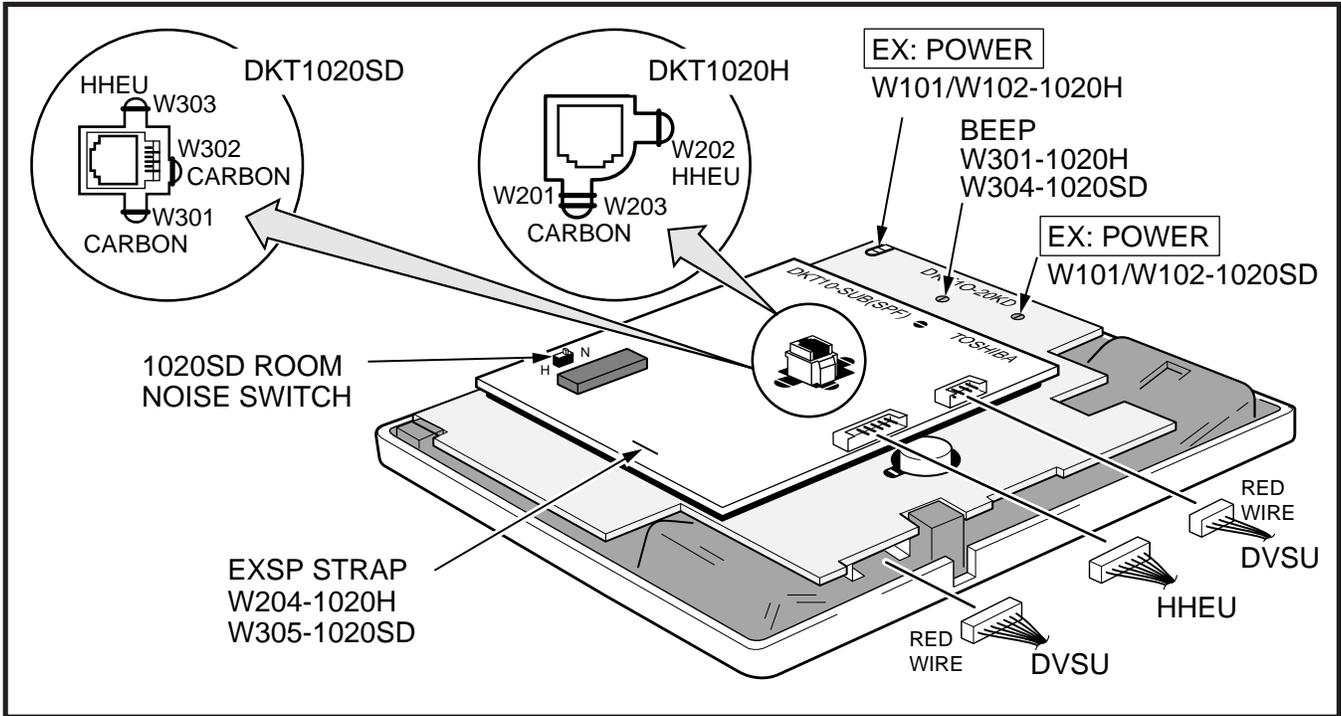

FIGURE 7-9
- 4B) If installing the DVSU into a 1000-series digital telephone, refer to Figure 7-9, and connect the DVSU wire plugs to the **DVSU** connectors on the PCBs inside the telephone.
- 7B) For 1000-series digital telephones, refer to Figure 7-9, and connect the wire plug of the HHEU to the **HHEU** connector on the PCB of the telephone.
- 8B) For 1000-series digital telephones, refer to Figure 7-9, and locate the **EX.SP** strap on the upper PCB in the telephone, and cut it if an HHEU will be connected to an HESB for the Loud Ringing Bell option.
- 9B) For 1000-series digital telephones, refer to Figure 7-9, and locate the **HHEU** strap on the upper PCB in the telephone. Cut the strap if an HHEU will be connected to a headset.
- 2B) For 1000-series digital telephones, refer to Figure 7-9, and cut the **CARBON** straps, (**W301** and **W302** on the DKT1020-SD; **W201** and **W203** on the DKT1020-H).
- 2B) For 1000-series digital telephones, refer to Figure 7-9, and cut the **BEEP** strap.
(DKT1020-SD), refer to Figure 7-9, and locate the **ROOM NOISE** switch. Push the switch carefully to the **H** (high) position (for low sensitivity) when there is high background noise in the area surrounding the telephone.